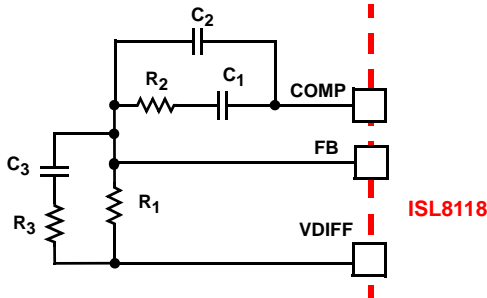
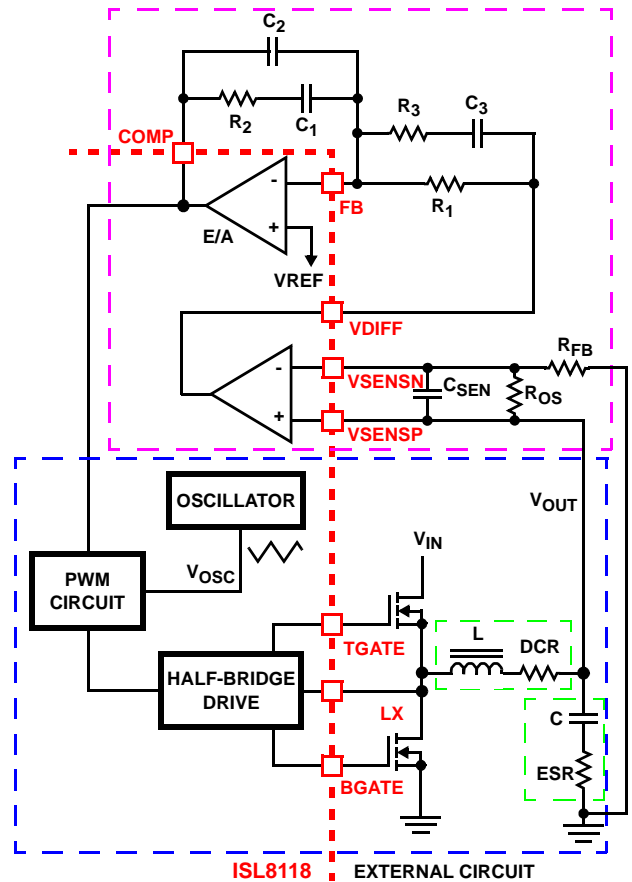

FIGURE 9. COMPENSATION CONFIGURATION FOR ISL8118 WHEN USING DIFFERENTIAL REMOTE SENSE
FIGURE 10. VOLTAGE-MODE BUCK CONVERTER COMPENSATION DESIGN
The ISL8118 single-phase converter is a voltage-mode controller. This section highlights the design considerations for a voltage-mode controller requiring external compensation. To address a broad range of applications, a type-3 feedback network is recommended (see Figure 9).
Figure 10 highlights the voltage-mode control loop for a synchronous-rectified buck converter, when using an internal differential remote sense amplifier. The output voltage (V_{OUT}) is regulated to the reference voltage, V_{REF}, level. The error amplifier output (COMP pin voltage) is compared with the oscillator (OSC) triangle wave to provide a pulse-width modulated wave with an amplitude of V_{IN} at the LX node. The PWM wave is smoothed by the output filter (L and C). The output filter capacitor bank's equivalent series resistance is represented by the series resistor ESR.
The compensation network consists of the error amplifier (internal to the ISL8118) and the external R₁-R₃, C₁-C₃ components. The goal of the compensation network is to provide a closed loop transfer function with high 0dB crossing frequency (F₀; typically 0.1 to 0.3 of F_{SW}) and adequate phase margin (better than 45°). Phase margin is the difference between the closed loop phase at F_{0dB} and 180°. The equations that follow relate the compensation network's poles, zeros and gain to the components (R₁, R₂, R₃, C₁, C₂, and C₃) in Figures 9 and 10. Use the following guidelines for locating the poles and zeros of the compensation network:
1. Select a value for R₁ (1kΩ to 10kΩ, typically). Calculate value for R₂ for desired converter bandwidth (F₀). If setting the output voltage to be equal to the reference set voltage as shown in Figure 9, the design procedure can be followed as presented. However, when setting the output voltage via a resistor divider placed at the input of the differential amplifier (as shown in Figure 10), in order to compensate for the attenuation introduced by the resistor divider, the below obtained R₂ value needs be multiplied by a factor of (R_{OS}+R_{FB})/R_{OS}. The remainder of the calculations remain unchanged, as long as the compensated R₂ value is used.
A small capacitor, C_{SEN} in Figure 10, can be added to filter out noise, typically C_{SEN} is chosen so the corresponding time constant does not reduce the overall phase margin of the design, typically this is 2x to 10x switching frequency of the regulator. As the ISL8118 supports 100% duty cycle, d_{MAX} equals 1. The ISL8118 also uses feed-forward compensation, as such V_{OSC} is equal to 0.16 multiplied by the voltage at the VFF pin. When tying VFF to V_{IN} the above equation simplifies to: